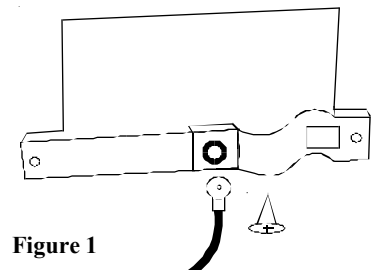

Figure 1
3. To install the DGS unit as a stand-alone unit, attach a ground wire (minimum #10 AWG for Primary Protector, minimum #14AWG for Secondary Protector) to the ring terminal provided. Using the self tapping screw provided, attach the ring terminal to the base of the unit. Using screws (or bolts) as appropriate, mount the unit to the flat surface (see figure 1).